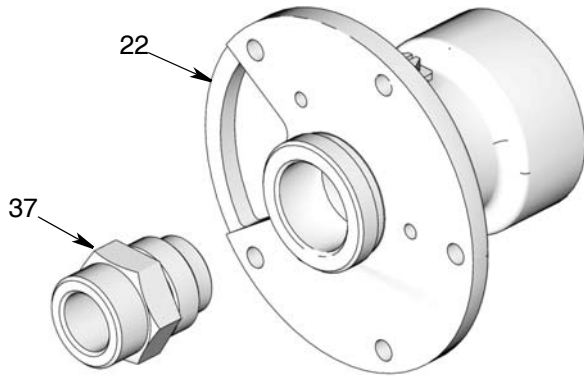

Fig. 28
- Remove nut retainer (37) from flange (22) (Fig. 28).